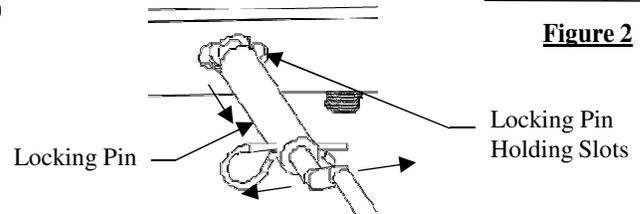
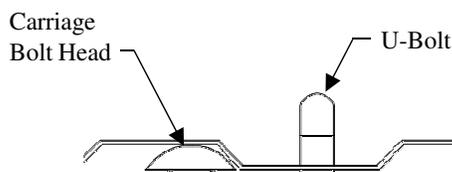

Figure 3
Figure 6
12. Before installing the 5/8" carriage bolts through the hitch, the U-Block shims must be placed between the hitch and the bed and between the cross members and the bottom of the bed (see Figure 6). These shims are necessary to prevent the bed corrugations from collapsing when the bolts are tightened.
- 2B. After re-installing locking pin assembly, check for proper movement and holding slot engagement with the ball in place (see figure 3).
3. Install under bed supports with (4) vertical 5/8" bolts in rails.
- 5A. Use the (2) inner slots on forward side of head to drill 5/8" diameter holes up through truck bed. Make sure that holes go through the truck bed corrugation that is down so that head of carriage bolt is recessed below top of bed corrugation.
7. Using the U-Bolt slots as a guide, drill four 9/16" holes in the bed. These holes must be in a lower bed corrugations to limit the amount of U-bolt showing above the bed (see figure 6).